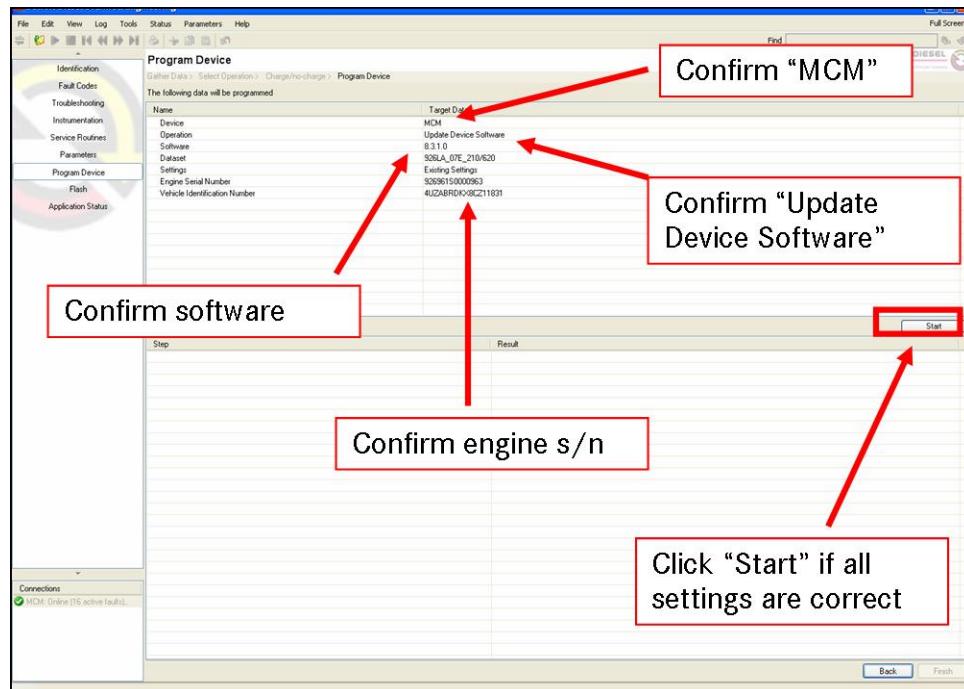

Figure 8
- i. Confirm that all of the information is correct before proceeding. If everything is correct, click on the “Start” button. See Figure 8.